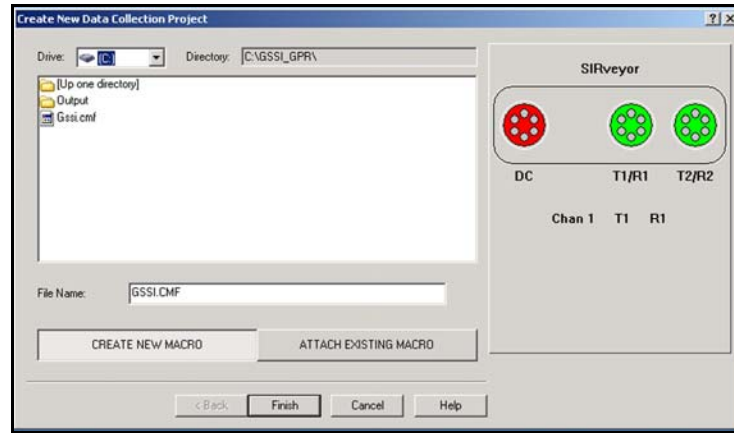

Figure 39: Attach a Macro or Create a New One.
- 6** This screen controls your collection parameters. Most of the time the default settings will be fine. To access settings for different applications click the small arrow in the Config Type (1) option.
- For example, if you are scanning an area with a 400 MHz antenna to find underground utilities and storage tanks, choose UTILITY. Then choose your antenna type under Config Name (2). Common data collection parameters will be automatically set.
- 7** Check to make sure that Scans/ft (7) is adequate for your application. The general rule is the more scans/unit that you collect, the slower your collection speed, the larger your data file, and the more “stretched” your file will appear. When you are finished, click Next > to open the “Create New Data Collection Project” window.
- 8** The next window (Figure 39) will prompt you to either create a new macro or attach one that you have already created. A macro is nothing more than a saved list of data collection parameters. These parameters include: filters, time range and gain settings. These will vary from job to job, so it is possible you will have many different macros for different situations.